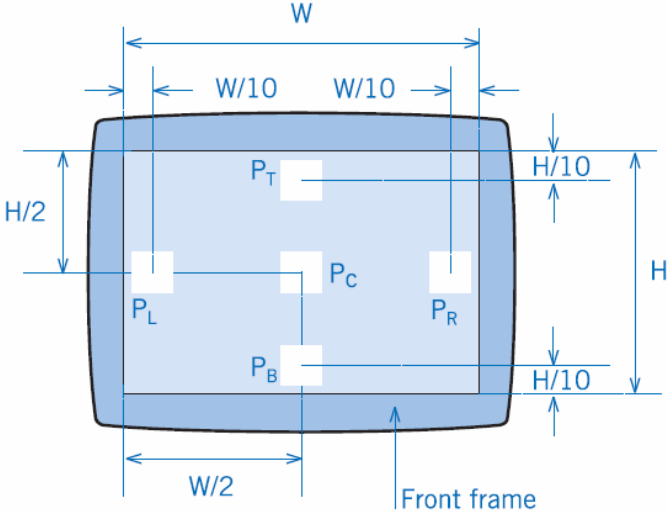

Figure1: Measurement positions for angular dependence luminance uniformity.
1. Refer to Fig.1&2, for FPDs in the horizontal direction, the mean value of the Lmax. to Lmin. ratios at ± 30 degrees shall be ≤ 1.7 .
2. Refer to Fig.1&3, for FPDs in the vertical direction, the value of Lmax. to Lmin. ratio at +15 degree shall be ≤ 1.7 and the largest value of Lmax. to Lmin. ratio at ± 15 degree shall be
Refer to Fig.1&2, center point(Pc) Luminance of White(Lw) and Black(LB) is measured at ±30 degrees.